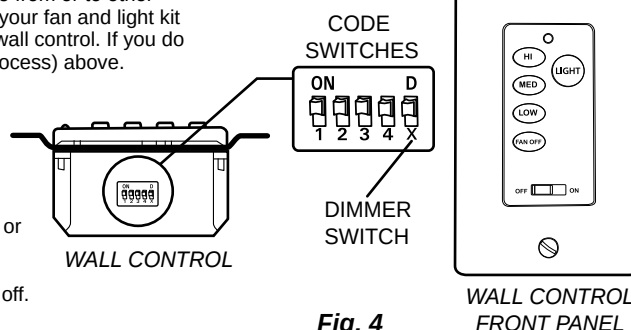

Fig. 4
- Slide code switches 1 through 4 to your choice of up or down position. (Factory setting is all up). Do not use this position. Use a small screwdriver or ballpoint pen to slide firmly up or down. (Figure 4)
- Locate the dimmer switch to the right of the code switches labeled with a "D" and an "X". Set dimmer switch to ON (D) position only if using incandescent bulbs. Set dimmer switch to OFF (X) position if using compact fluorescent bulbs.
Restore electrical power. Within 30 seconds of restoring electrical power, press the "FAN OFF" button, located on the wall control, for 3 seconds or until light on fan blinks twice. Test the light and fan functions to confirm the learning process is complete. (Figure 4) **CAUTION:** The wall control can be programmed to multiple receivers or fans. If this is **not** desired, turn power off to any other programmable receiver or fan.